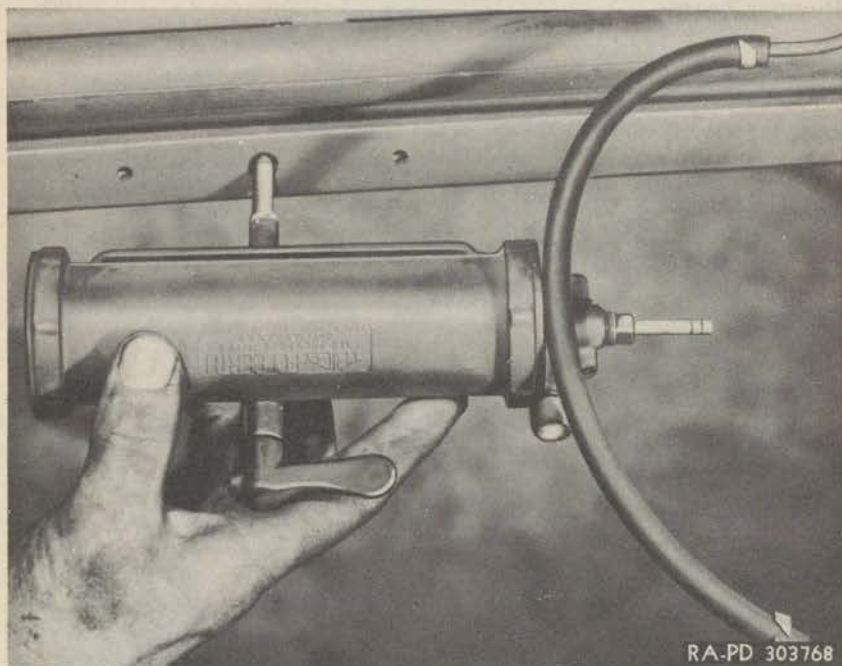

Figure 205—Installing Windshield Wiper
Spread the clamp on the end of the rubber hose leading to the windshield wiper. Disconnect the hose from the wiper. Remove the two screws holding the windshield wiper to the top panel of the windshield frame, and pull the wiper assembly away from the windshield (fig. 205).
b. **Installation.** Lift the windshield wiper assembly into position with the air inlet fitting facing towards the rubber hose, and slide the wiper shaft through the hole in the top windshield panel (fig. 205). Install screws attaching the wiper assembly to the panel and tighten securely. Slide the end of the rubber hose over the connector tube on the end of the wiper and squeeze the clamp together. Slide the wiper blade and arm assembly over the end of the wiper shaft and replace the hex head screw.